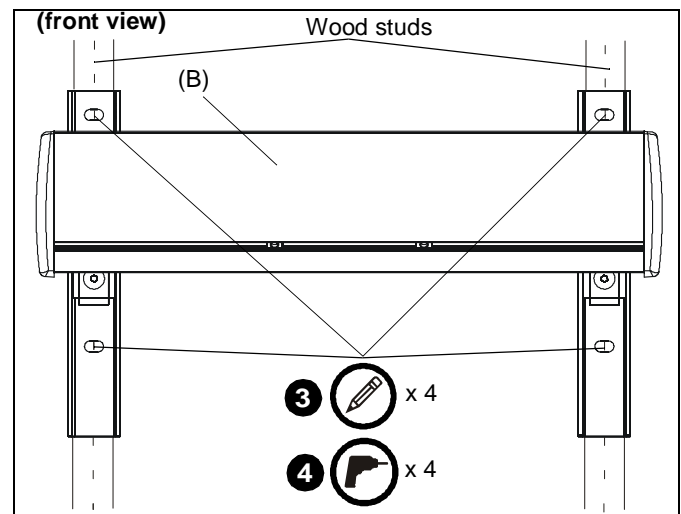

Figure 6
2. Line up inner four holes on wall bracket (B) with center of studs at desired mounting location. (See Figure 6)
3. Using wall bracket (B) as a template, mark four holes at the holes in bracket. (See Figure 6)
4. Drill four 7/32" holes at marked locations in wall. (See Figure 6)